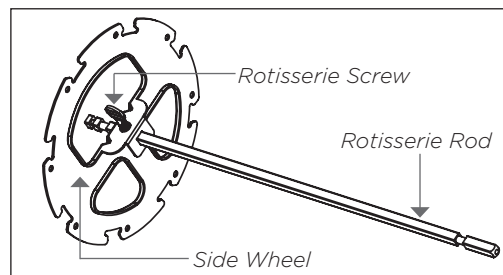

Fig. 1
- 1 Insert the Rotisserie Rod into one Side Wheel. Ensure that the Rotisserie Screw is tightened. See Fig. 1.